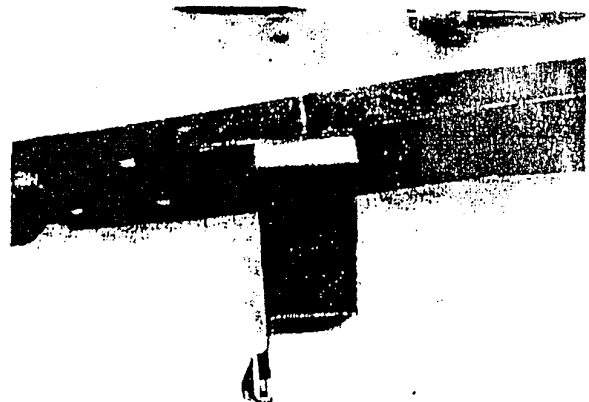

Figure 5
8. Now it is time to start fitting and installing the new components in the frame. Start with the new crossmember. Slip it into the frame, center it on the scribed axle center line (Figure 5). If it does not fit, check that your frame is the correct width. It should be 30-5/16" wide at the axle center line (scribed line). If it is that dimension, then grind the sides of the crossmember until you can get the crossmember in place, as shown. Tack weld in place, check location, then weld in place, welding all around both ends, top, sides, and bottom. If you installed a temporary brace across the rails, you can now remove it.